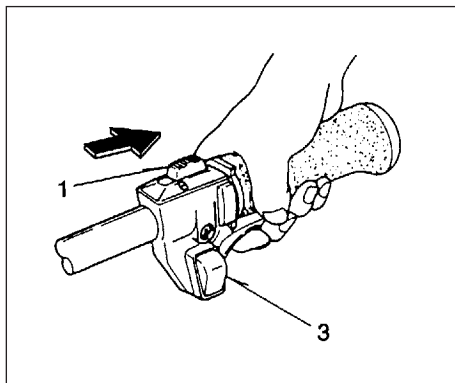

Fig. 2-2
#### Starting (Fig. 2-2, 2B)
1. Set ignition switch (1) to ON position. (Fig. 2-2)